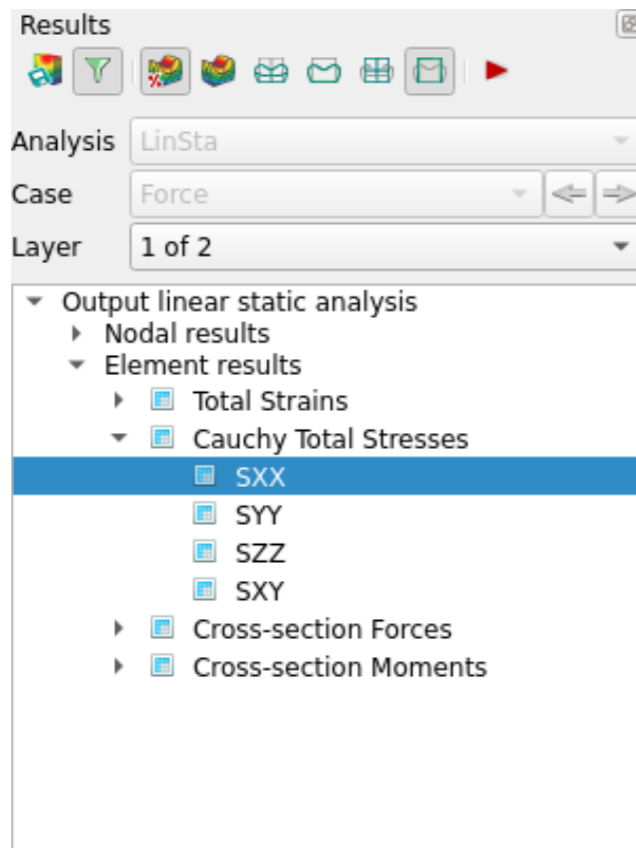

Figure 27: Results browser
**Results browser** → LinSta → Output linear static analysis → Element results → Cauchy Total Stresses → SXX  → Show contours [Fig. 27]